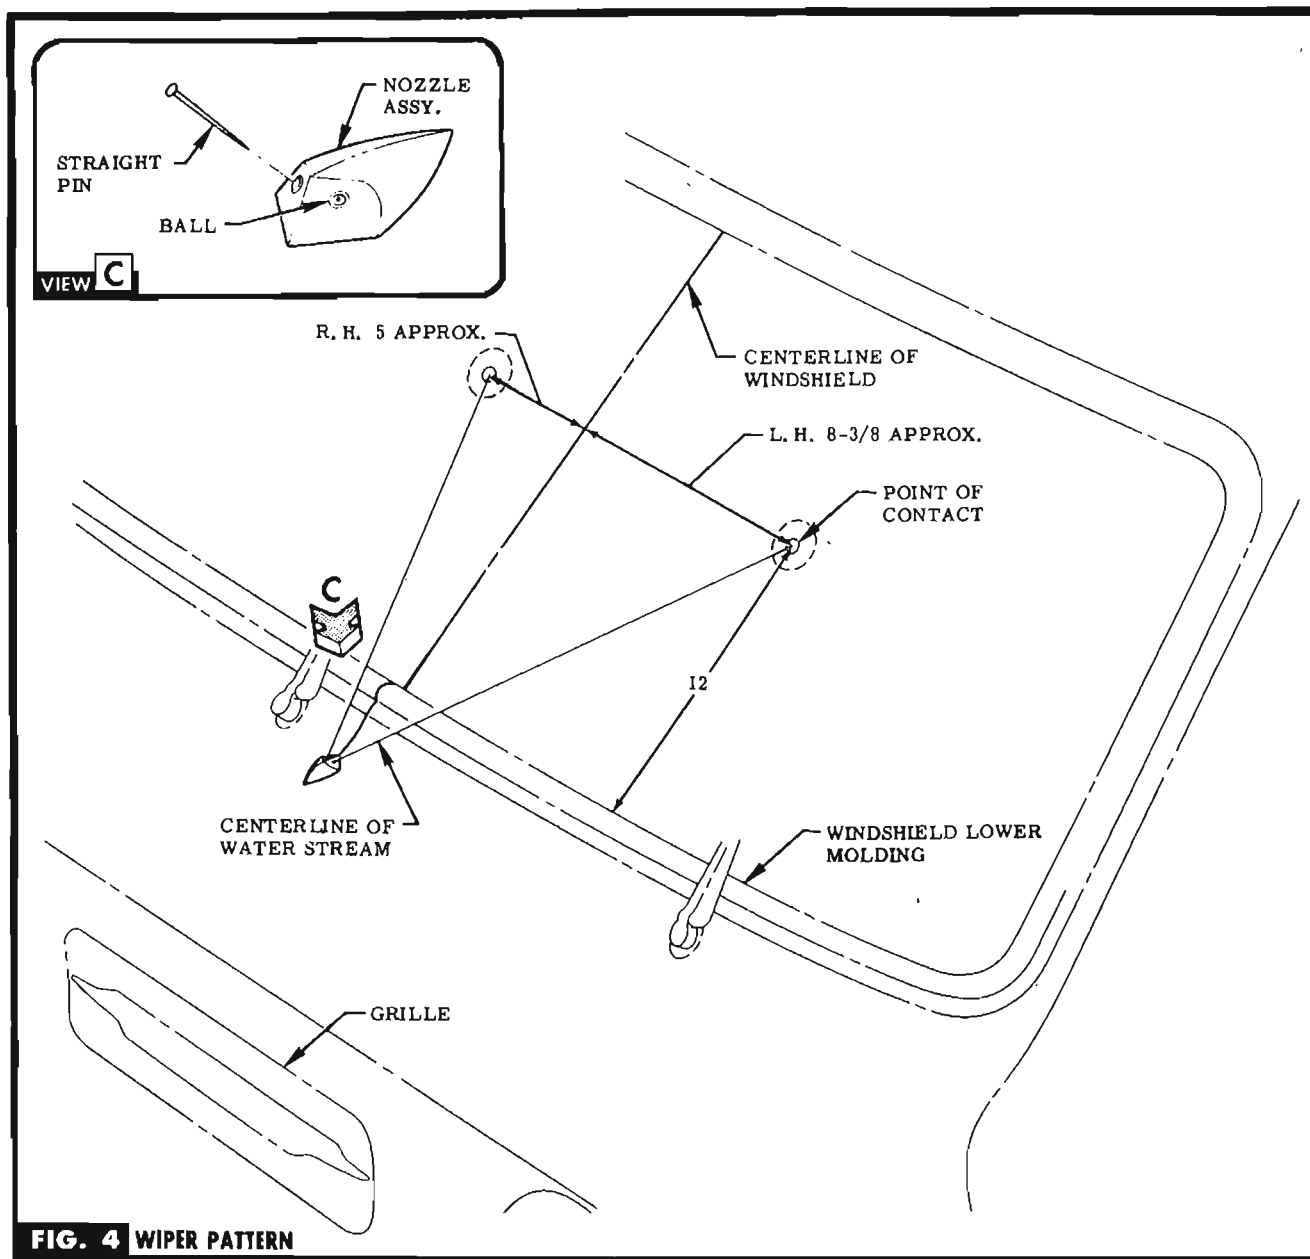

FIG. 4 WIPER PATTERN
STEP 11 TEST SYSTEM TO INSURE CORRECT INSTALLATION & DETERMINE LOCATION OF POINT OF CONTACT FOR WATER STREAM. SEE FIG. 4.